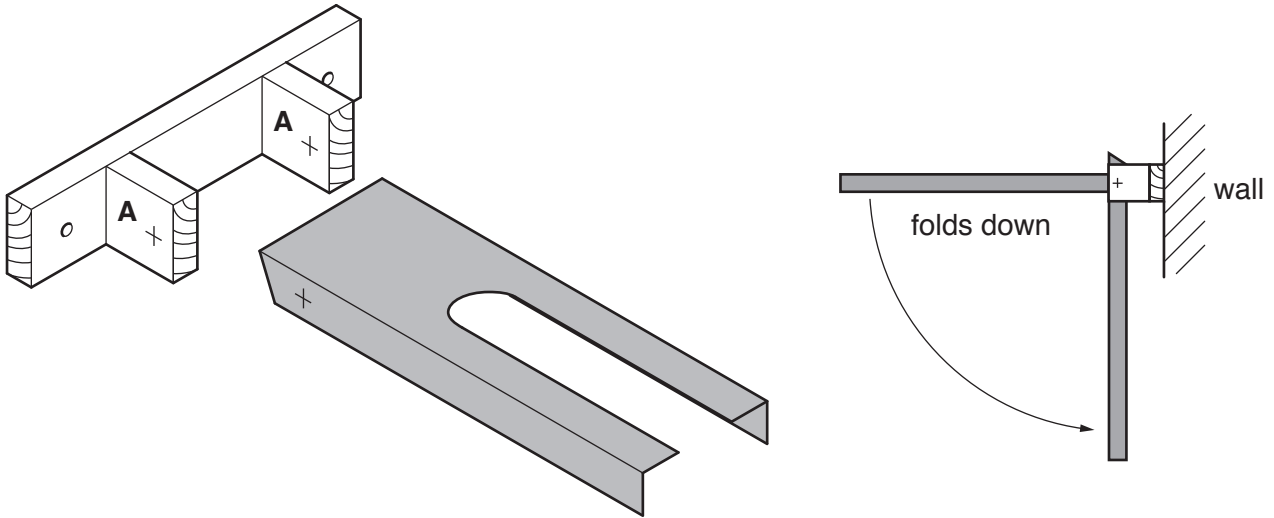

Fig. 13
- (e) Fig. 13 shows views of the back and support.
Use sketches and notes to show how the support could be locked in a horizontal position as shown in Fig. 13.